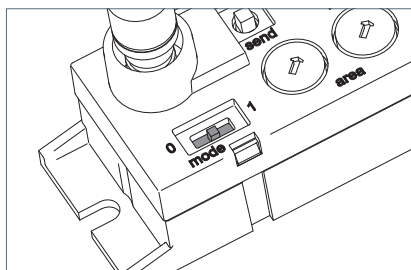

Fig. 17: Swarm control activated.
- Slide the "mode" slide switch to position **1**, see Fig. 17.